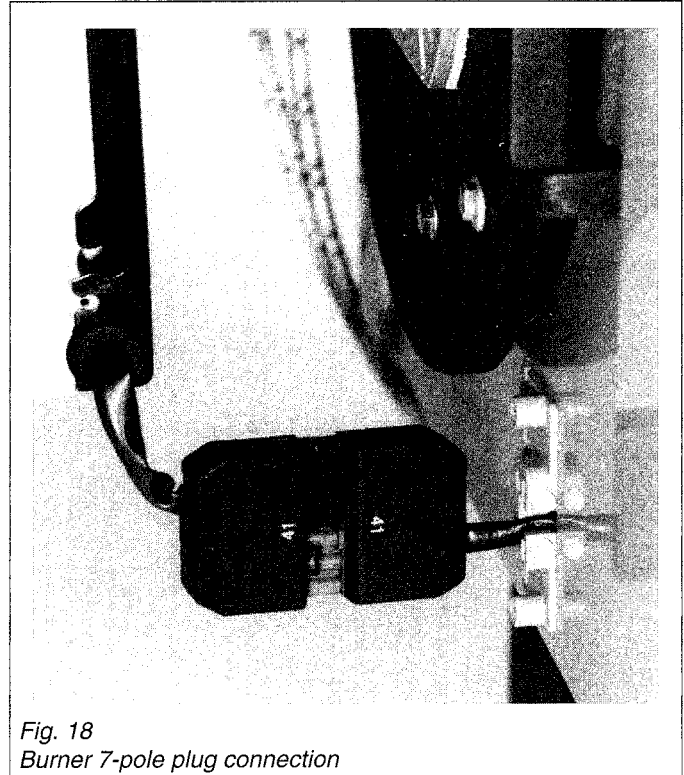

Fig. 18
14. Attach female 7-pole plug from burner to male 7-pole plug from boiler control (see Fig. 18). 120V is switched to burner through 7-pole plug wiring harness on a call for heat. Do not connect additional 120V power supply to the burner. Provide a grounded 120V receptacle for appliance cord shipped with SR-V or SR-VR control. For Trimatik control provide 120V supply into power/pump control module supplied with Trimatik. Always provide disconnect switch and overcurrent protection. Refer to wiring diagrams provided with control for details and sequence of operation.